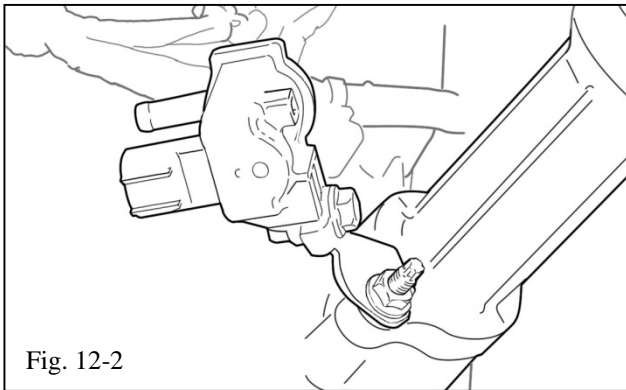

Fig. 12-2
- (b) Attach the VSV to the supplied VSV Bracket (F3) using the stock bolt and a supplied M6 nut (F4) (Fig. 12-2).
- (c) Mount the VSV/VSV bracket subassembly to the front stud of the oil filler cap housing. Remove the stock nut, install the M6 washer (F5), the bracket-valve assembly, and reinstall the nut (Fig. 12-2).